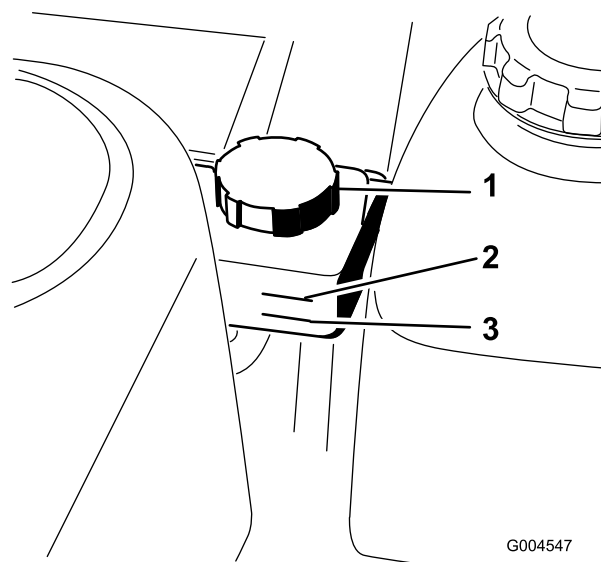

Figure 51
Note: There are two ways of checking the hydraulic oil; when the oil is warm or when the oil is cold. The tank has two levels depending if the oil is warm or cold (Figure 51).
2. Clean the area around the hydraulic tank (Figure 51).
5. If fluid is needed, remove the cap from the filler neck (Figure 51).
8. Add oil until it reaches the cold line on the hydraulic tank (Figure 51).
13. Repeat items 11 and 12 as necessary until all the air is completely purged from the system. When the transaxle operates at normal noise levels and moves smoothly forward and reverse at normal speeds, then the transaxle is purged.